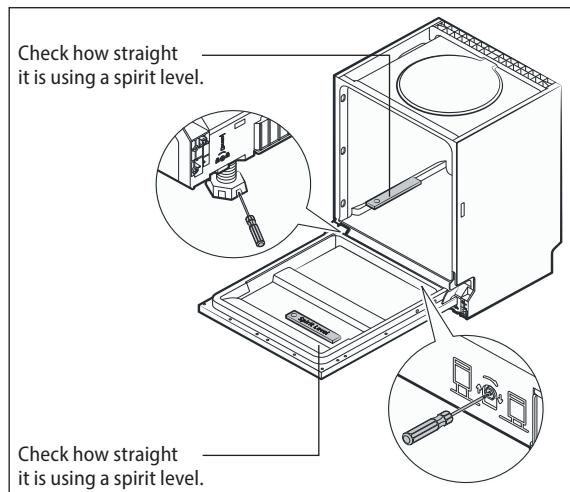

Fig. 17
- Use the feet at the front and back of the appliance to level it to a horizontal position. Adjust the back feet by turning the screw on the bottom of the front side of the appliance (step 5). Adjust the front feet by turning screws located near the feet themselves (step 5B). Use a spirit level Fig. 17.
2. Place a spirit level on the fully opened door and in the interior of the appliance (Fig. 17). Make sure the dishwasher is in a horizontal position.